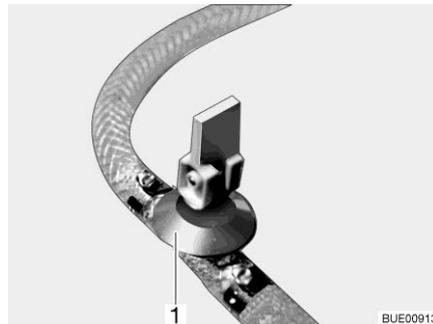
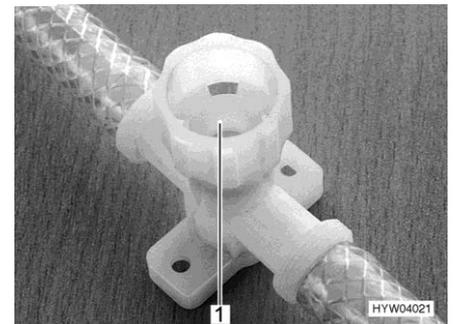

Fig. 251 Drain cock (with rocking lever)
Fig. 252 Drain cock (with twist cap)
- Close all drain cocks. To do this, position the drain cock's rocking lever (Fig. 251,1) horizontally or turn the drain cock's cap (Fig. 252,1) in a clockwise direction.